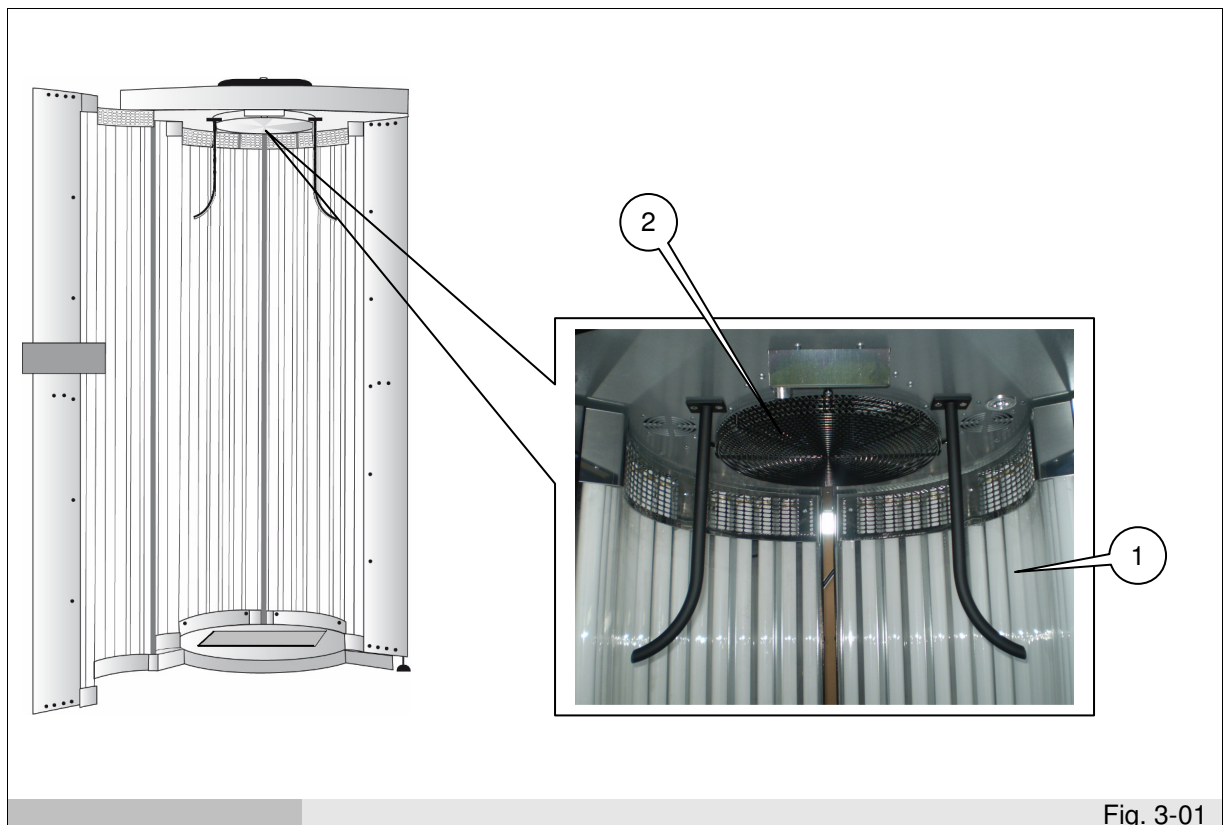

Fig. 3-01
- a Plexiglas guard covering the internal bulbs (e.g. ref. 1 fig. 3-01);
- a protective grille on the cooling system (ref. 2 fig. 3-01);